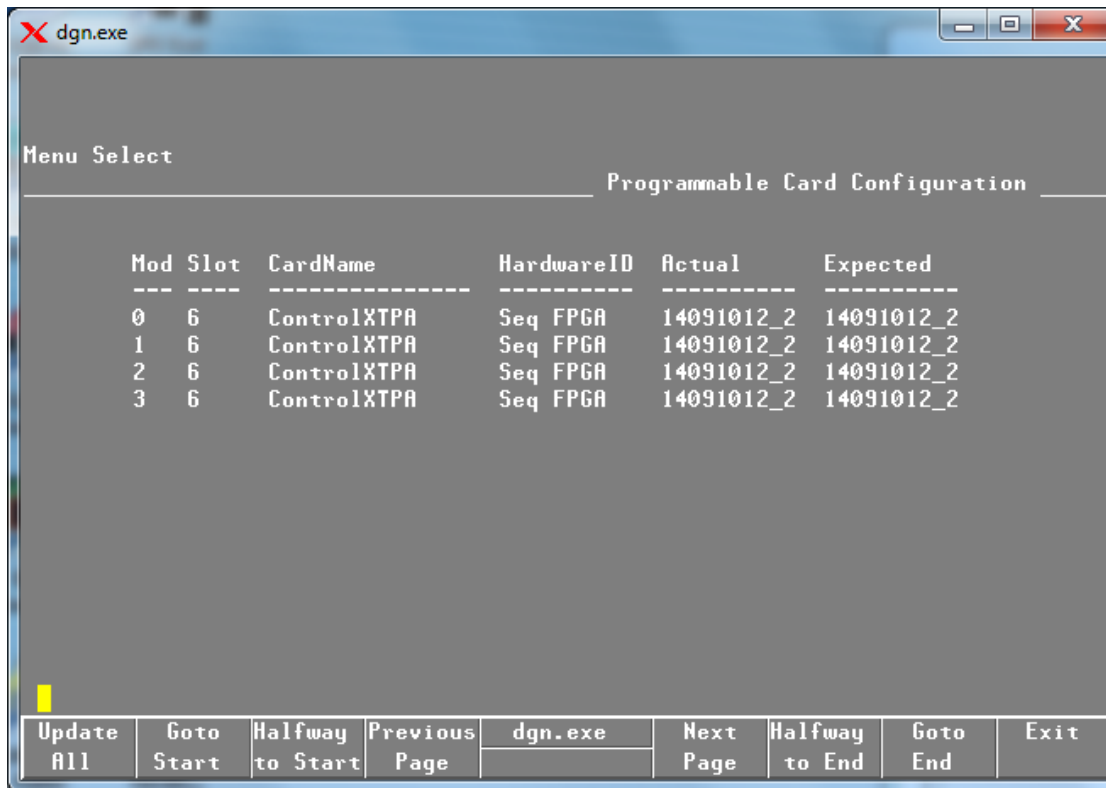

Figure 3: Diagnostics firmware version
- 2) You should notice the Actual and Expected value show as "14091012_2" (Figure 3).